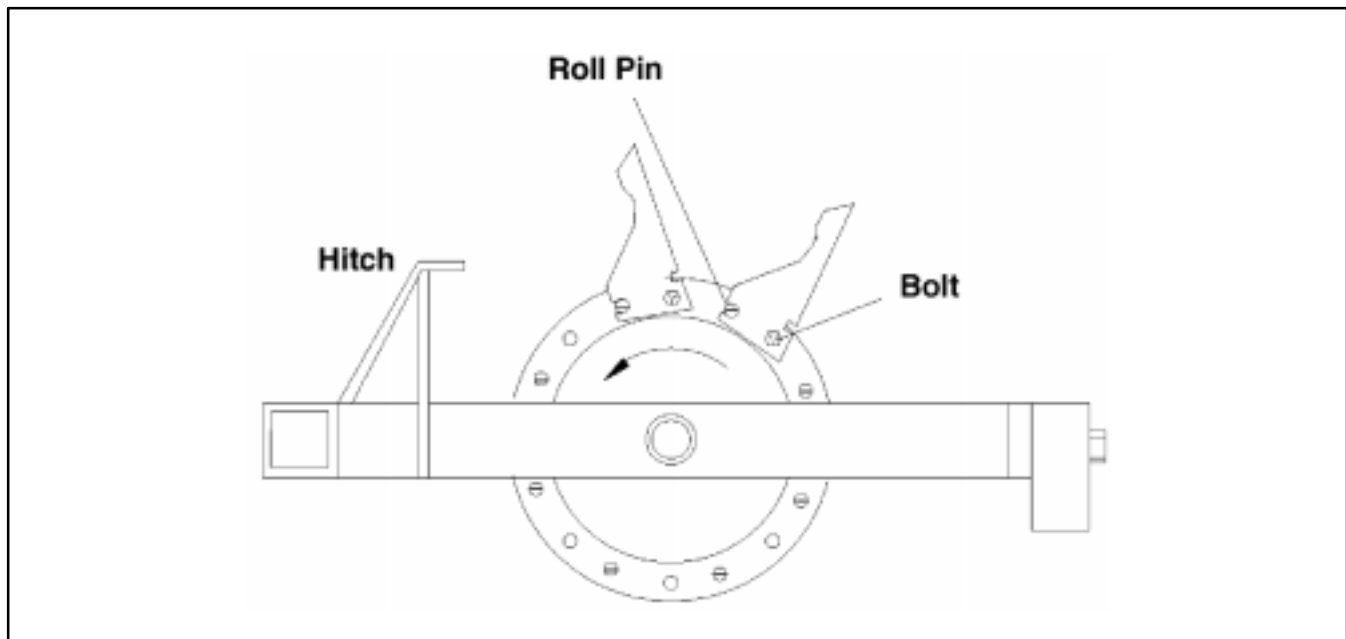

Figure 1
## INSTALLING TINES (Fig. 1)
2. Start at the outside casting and install the tines as shown. Install all 8 tines on the casting making sure the roll pin is in the front position (Fig. 1). Use 1/2" x 1-3/4" bolts for the second hole and secure tightly.